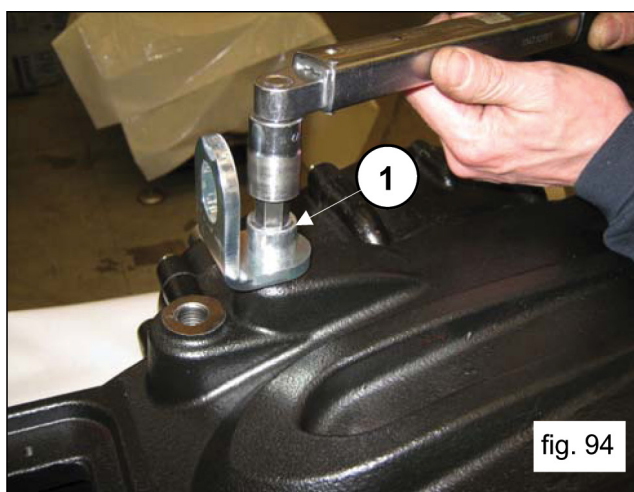

fig. 94
Insert the key 14 x 9 x 60 on the pinion. Apply plugs and lifting brackets with the use of M16 x 30 screws (1, fig. 94). Calibrate the screws with a torque wrench as indicated in paragraph 3 "Screw Tightening Calibration".